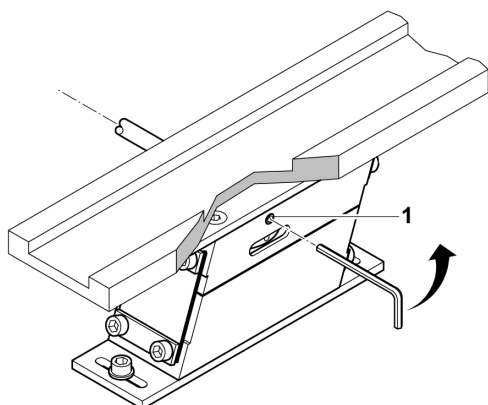
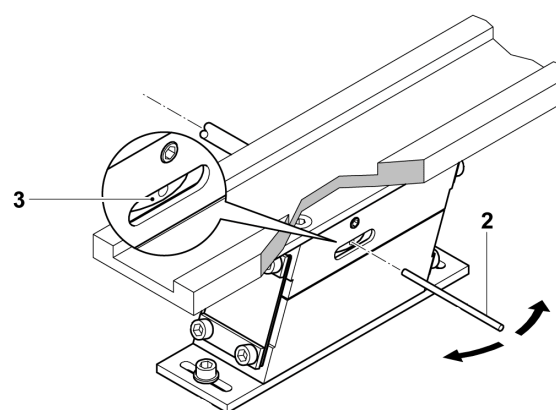

Figure 9
Figure 10
1. Turn the anchor bolt (see Figure 9, Figure 10), therefore: